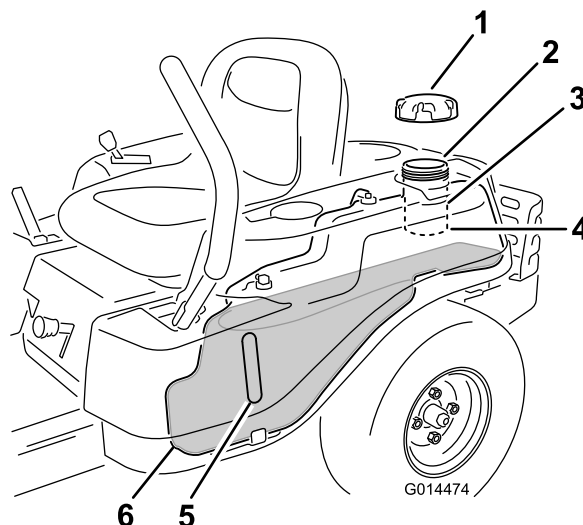

Figure 9
Note: You can use the fuel window to verify the presence of gasoline before filling the tank (Figure 9).
2. **Slowly** add regular, unleaded gasoline until the fuel reaches the base of the filler neck (Figure 9).